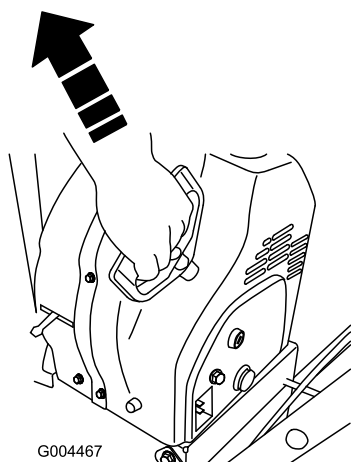
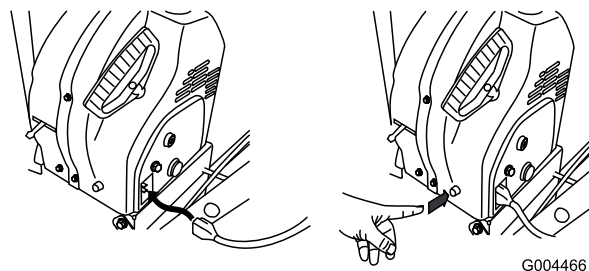

Figure 23
Figure 24
4. Start the snowthrower using the recoil starter (Figure 23) or the electric starter (Figure 24).